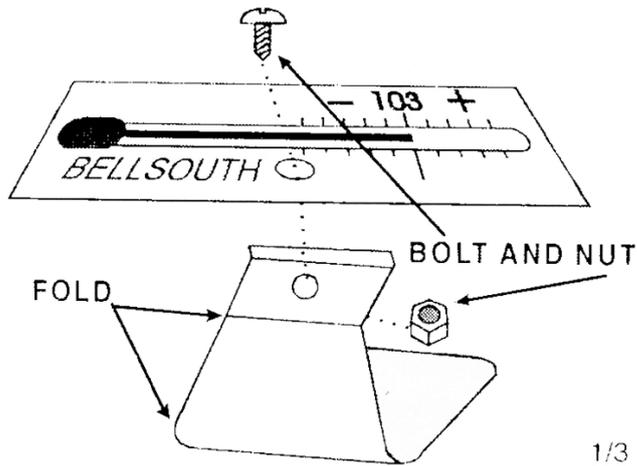
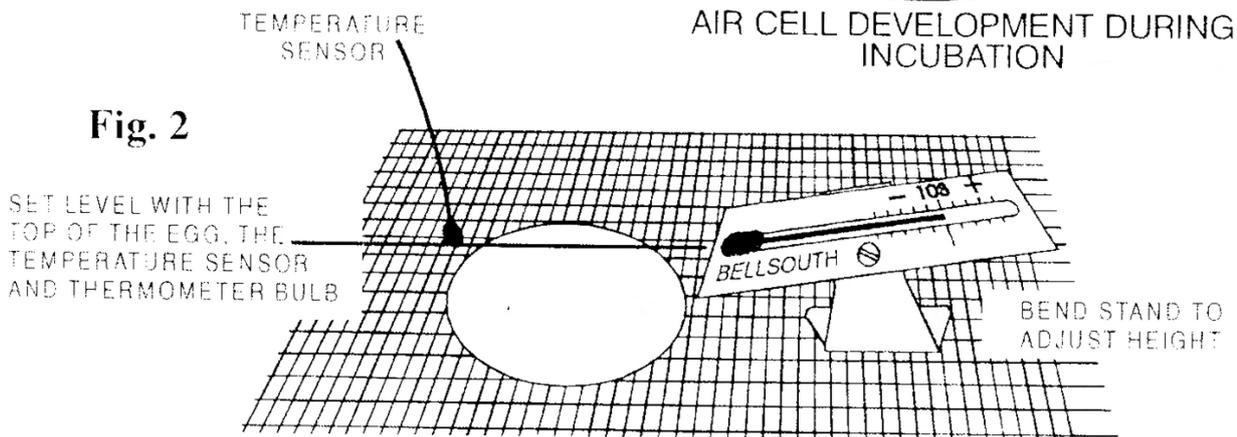

Fig. 1
Fig. 2
**2.** Remove thermometer from the box. The stainless steel stand has two lines drawn on it. Bend the stand along the lines and then screw the thermometer onto the stand (See Fig 1). The bottom of the thermometer bulb should be level with, or just above, the top of the eggs. Adjust the height by bending the stand (See Fig 2). Place the thermometer where it can be seen through the view port. The idea is to mimic the broody bird.
**3.** Adjust the end of the temperature sensor lead until it is just clear of the top of the eggs (See Fig 2). It is usual for the sensor to be 1-3mm above the top surface of the egg. Place the top of the incubator over the base and check that the thermometer is easily read through the view port. **Do not put eggs in the incubator until temperature has been stabilised.**
5. Set thermometer with the bulb level, with the top of the eggs, and 103 degrees F as the set temperature. Thermometer and temperature sensor should be at the same height as the top of the eggs but should not touch the eggs (see Fig 2). Remember a few minutes setting up correctly will save a lot of distress.